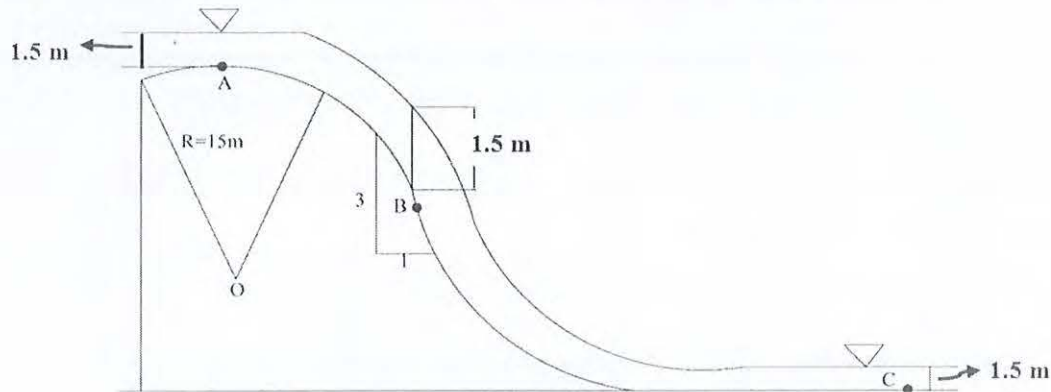

Figure 1
2. A spillway of Tarbela Dam is shown here in **Figure 1** that discharges water over the spillway at a rate of $10\text{m}^2/\text{s}$. Determine the intensities of pressure at points A, B, and C. [8]